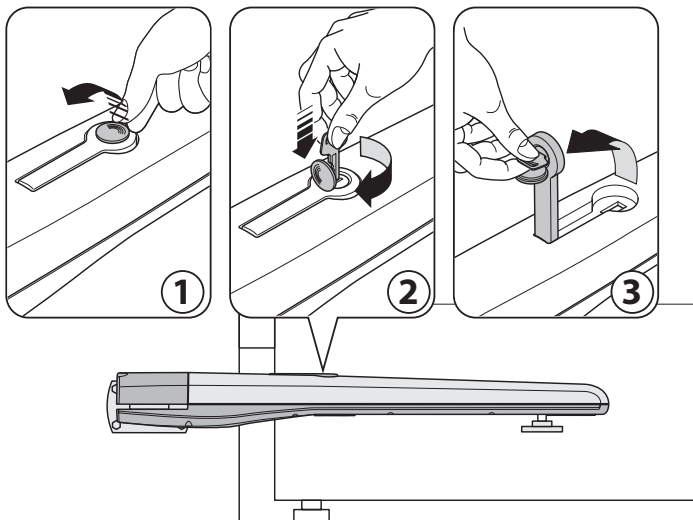

Figure 16 - T5 MANUAL RELEASE
4. Using the MANUAL RELEASE, disengage the drive motor if this is not already accomplished as shown in Figure 16.